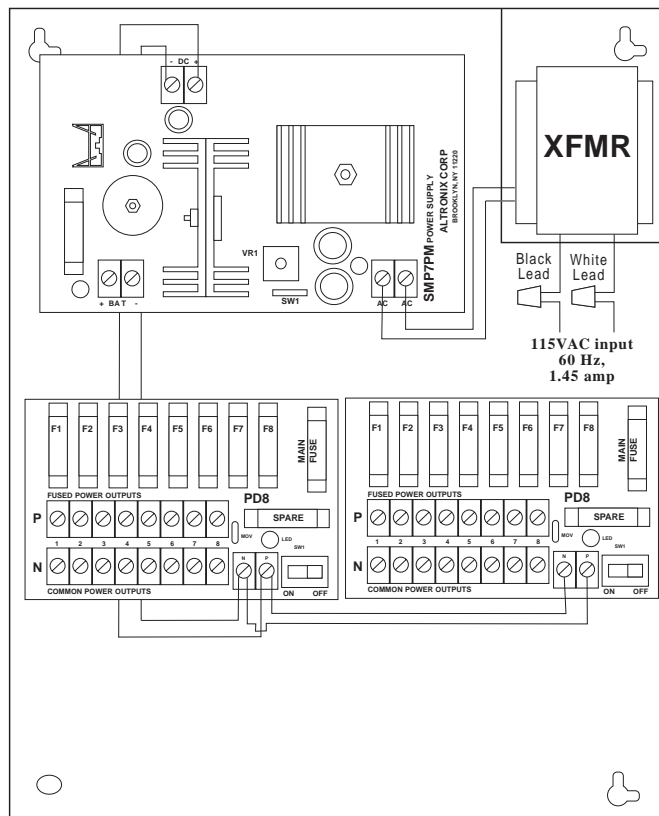

Fig. 1
- Sixteen (16) individually fused outputs.
- Output fuses are rated at 3.5 amps / 250VAC (Fig. 1).
- Main fuses are rated at 5 amps / 250VAC (Fig. 1).
2. Slide switch SW1 (Fig. 1) to OFF position.
3. Set the ALTV1224-DC2 to desired DC output voltage by setting switch (SW1) (Fig. 1) on the power supply board to the appropriate position (see power supply output specification table).
4. Connect the AC (115 VAC 50 / 60 Hz) to the black and white flying leads of the transformer (Fig. 1).
5. Connect each DC device to output terminals using the following procedure (Fig. 1).
6. When batteries are being used the DC output voltage must be adjusted by turning the trim pot VR1 (Fig. 1) clockwise to increase the output voltage to 13.7 VDC for 12 VDC operation and 27.1 vdc for 24 vdc operation. Connect battery to terminals marked [- BAT +] (Fig. 1) (battery leads included). Use two(2) 12VDC batteries connected in series for 24VDC operation.
7. Slide switch SW1 (see Fig. 1, #1) to ON position.